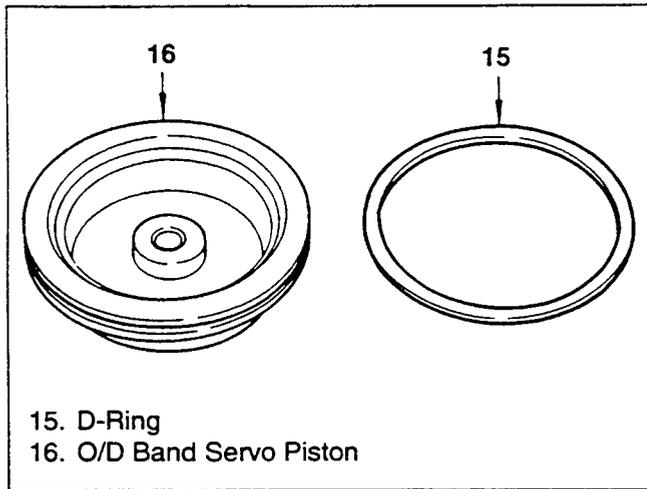

Figure 202. D-Ring Removal
- Remove the D-ring from the O/D band servo piston (figure 202).